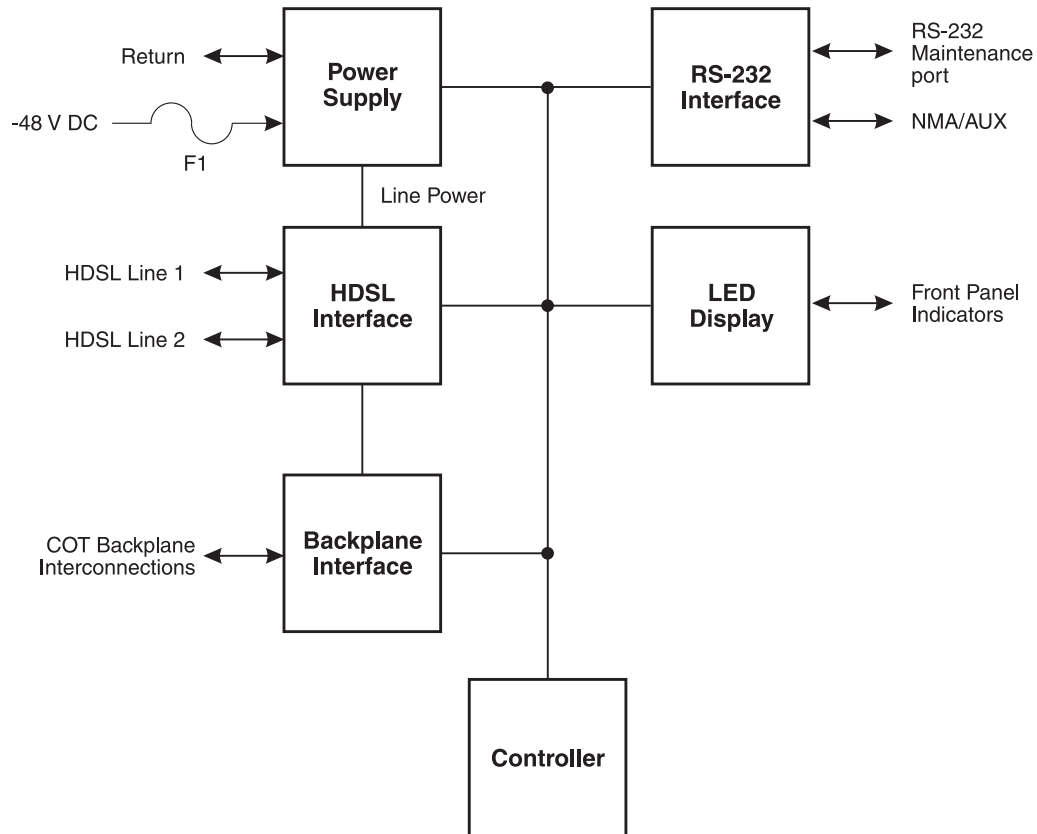

Figure 3. FLL-716 COT Line Unit Block Diagram
5.3 Figure 3 shows a block diagram of the FLL-716. The power supply converts CO battery into voltages necessary to power the PG-Flex electronics including ± 130 Vdc. During power-up, the system checks the HDSL lines for hazardous conditions or other line faults which might effect the system. If a fault condition is detected, the system stops the power-up sequence and the LED indicators on the front panel indicate a line fault problem.